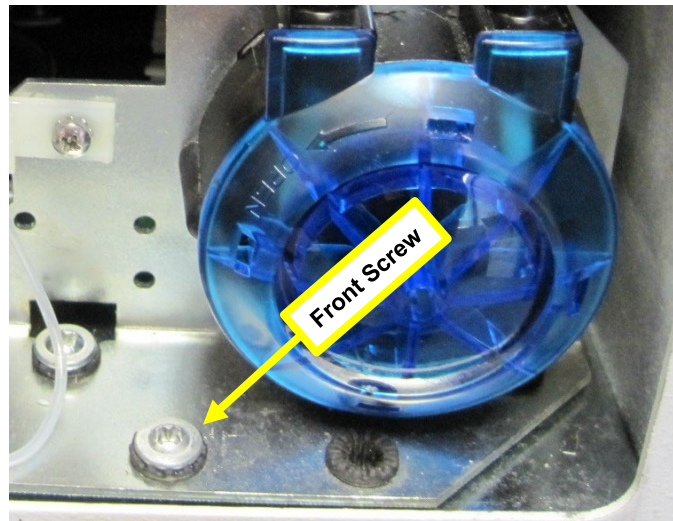

Figure 16
- 4.4. Remove the front screw on the peristaltic pump bracket and set the entire sub-assembly aside. Figure 16